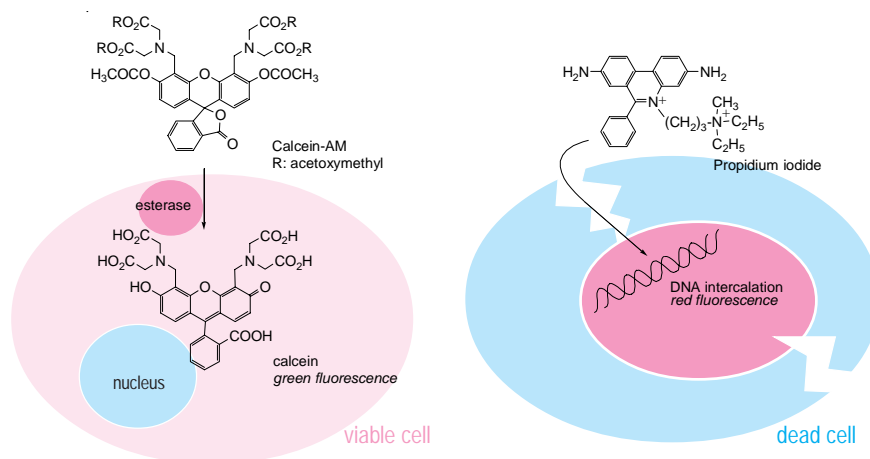

Fig. 3-34 Assay system to determine viable cells and dead cells
-Cellstain-Double Staining Kit is utilized for simultaneous fluorescence staining of viable and dead cells. This kit contains Calcein-AM and Propidium Iodide (PI) solutions, which stains viable and dead cells, respectively (Fig. 3-34). Calcein-AM, acetoxymethyl ester of calcein, is highly lipophilic and cell membrane permeable. Though Calcein-AM itself is not a fluorescent molecule, the calcein generated from Calcein-AM by esterase in a viable cell emits a strong green fluorescence (excitation: 490 nm, emission: 515 nm). Therefore, Calcein-AM only stains viable cells. On the other hand, PI, a nuclei staining dye, cannot pass through a viable cell membrane. It reaches